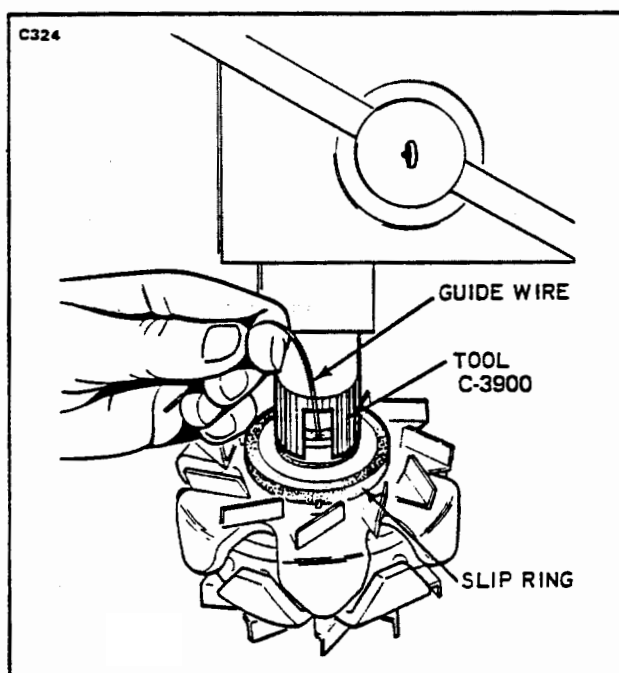

Figure 11-57. Installing Slip Ring
5. Place installing tool C-3900 over the rotor shaft with the guide wire protruding from the slot in the tool. (Refer to Figure 11-57.)